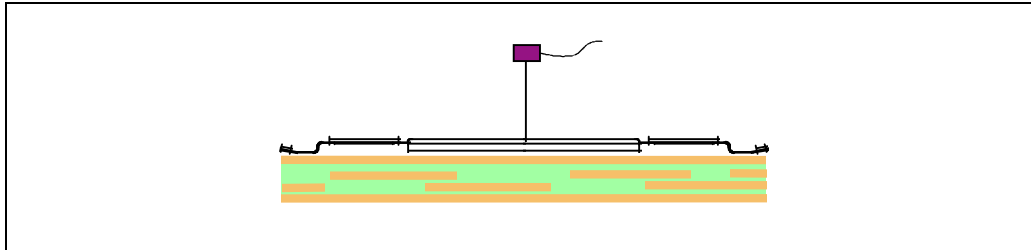

Figure 34-7. Technique for Measuring Case Temperature (T_C)
- The thermocouple should be attached at a 90° angle as shown in Figure 34-7.